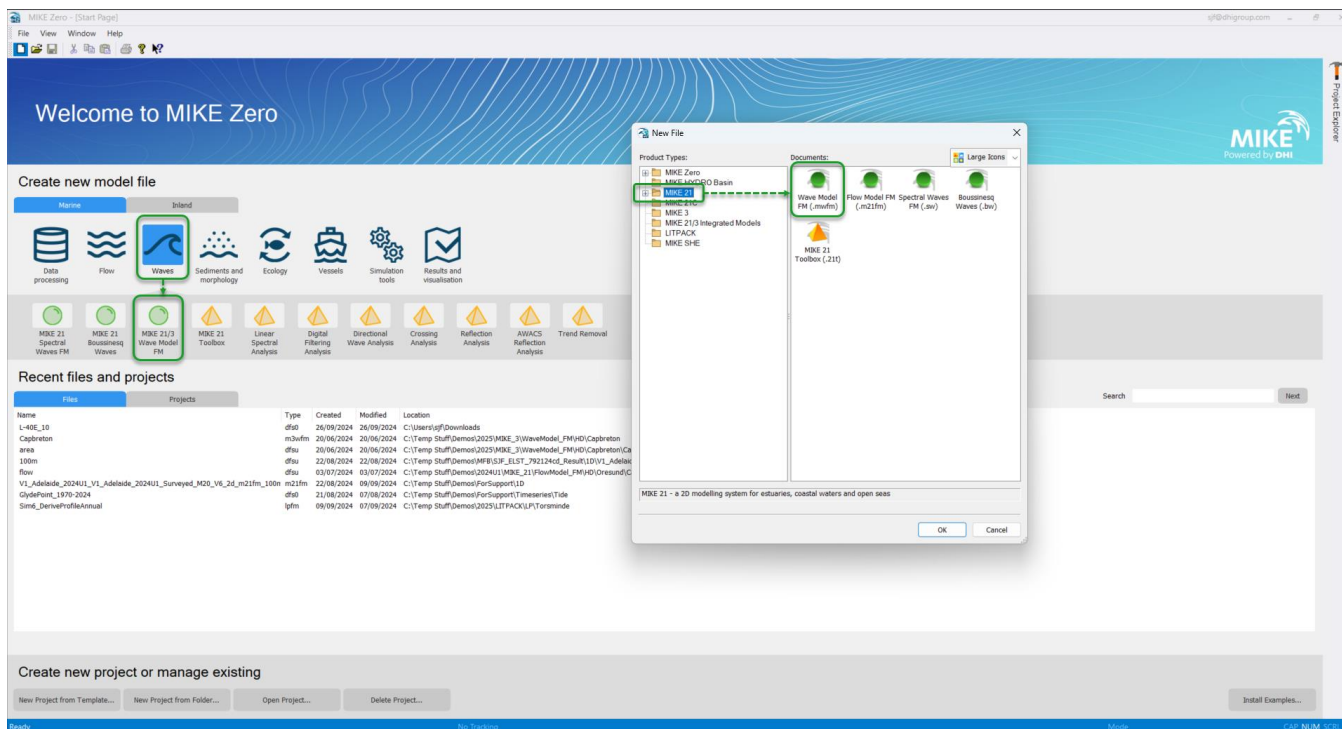

Figure 1 – How to find MIKE 21 Wave Model FM
| MIKE FM     | First release of MIKE 21 Wave Model FM (our new Boussinesq-type phase-resolving wave model): <ul style="list-style-type: none"><li>• Finite Volume (FV) scheme with fully unstructured mesh for boundary fitting and local mesh refinement.</li><li>• Improved flooding and drying for overtopping of breakwaters.</li><li>• Includes inundation output for coastal flood mapping.</li><li>• Improved workflows; internal wave generation, setup of porosity and sponge layers, simple switch between 2D and 3D.</li><li>• Standard FM features are available; for example, coastal vegetation and post-processing via Data Extraction FM.</li><li>• OpenMP and MPI parallelisation with official Linux version for HPC systems.</li></ul> See Figure 1. |